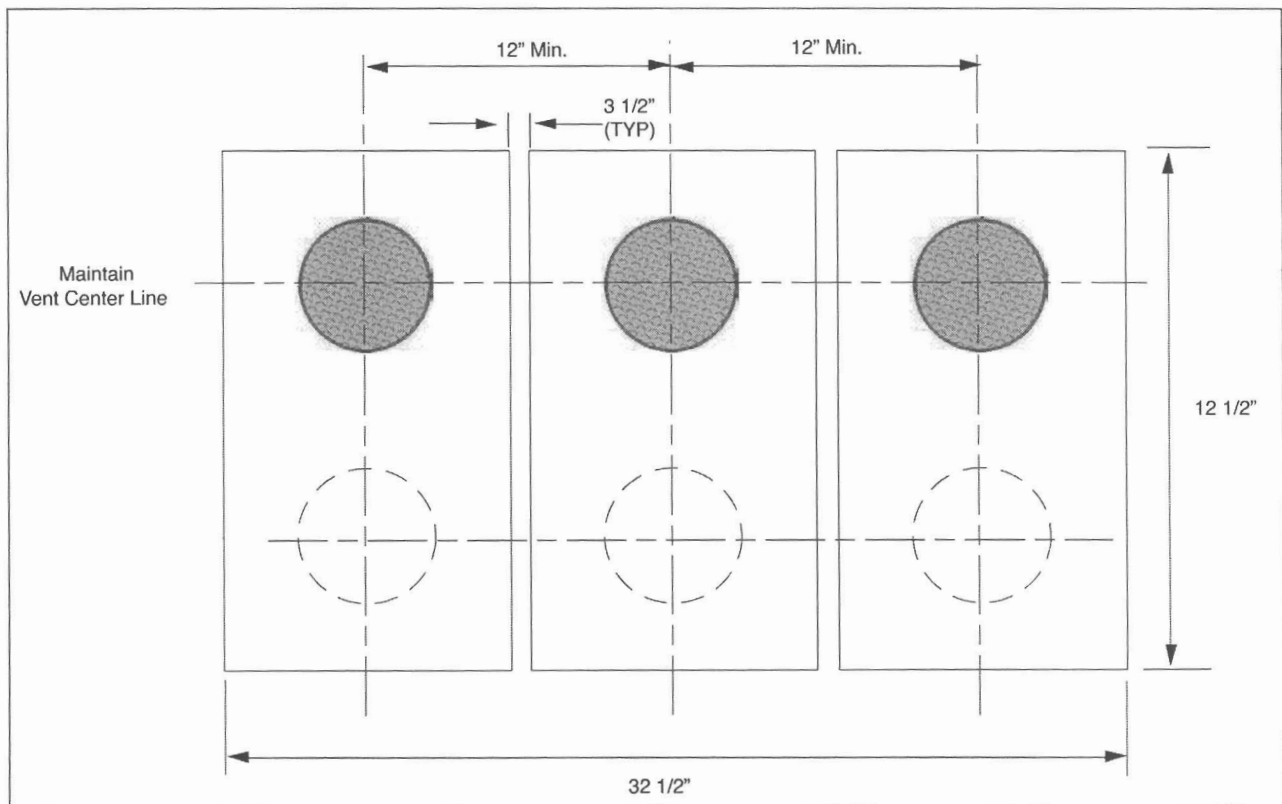

Fig. 5A: Multiple Vertical Vent Installation 3 Inch Vent System
3. The Prestige Gas Vent Termination is suitable for PVC or CPVC vent systems and may be installed in a horizontal or vertical configuration as shown in Figs. 5A through 6B.